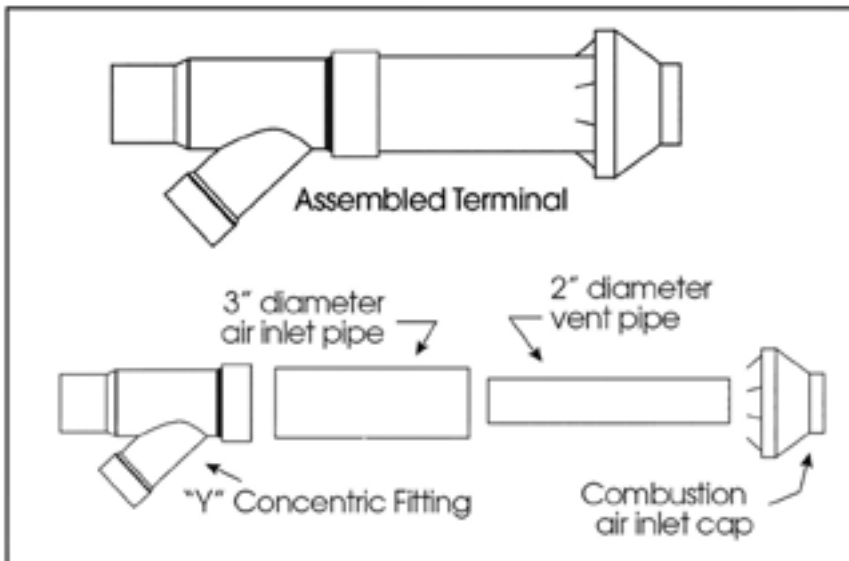

Figure 1: Vent Terminal Assembly
- a. Cement "Y" fitting to larger diameter air inlet pipe (Figure 1).
- b. Cement combustion air inlet cap to smaller diameter pipe (Figure 1).
- i. Ensure adequate clearance between piping and other structures. It is recommended that pipe and fittings are installed at least 1 inch from the supporting structure. In some instances additional clearance may be required. Please refer to the linear expansion tables (Figures 1 & 2) to help determine if extra clearance is necessary.